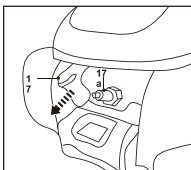

Fig. 29
1. Disconnect the spark plug connector (18) (Fig. 29).